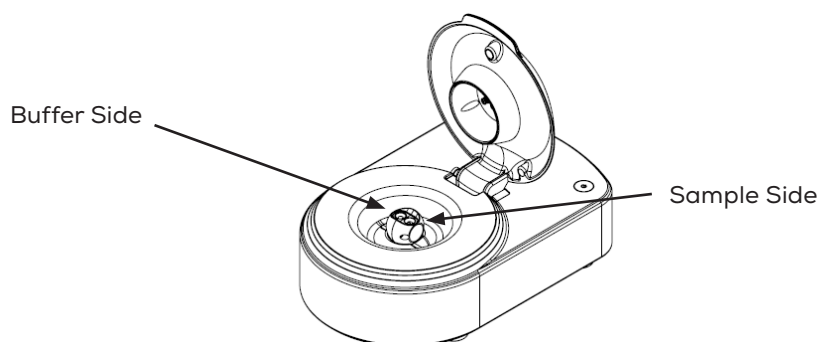

Figure 8. Sample and buffer sides of the fluid cell.
- Identify the sample side of the fluid cell. The fluid cell will only fit onto the Pulsoid in one orientation. In this orientation the sample side will be on the right as you face the instrument (Figure 8).
- a) Use the PAD to cover the channel on the buffer side of the fluid cell (Figure 8). Press down gently then pull up sharply. Try to achieve a “pop” noise so you know pressure and vacuum forces are being applied to the chamber.